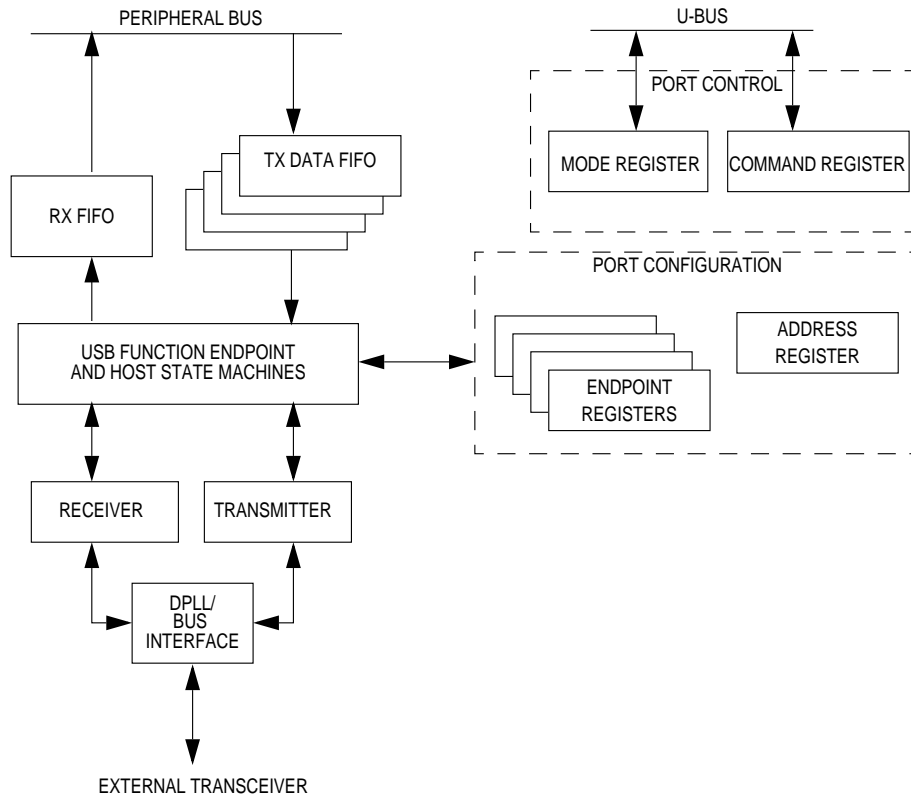

Figure 16-111. USB Controller Block Diagram
**16.9.23.4 SCCx ETHERNET EVENT REGISTER.** When a serial communication controller is in Ethernet mode, the 16-bit memory-mapped SCCx event register is referred to as the SCCx Ethernet event register (SCCE–Ethernet). Since each protocol has specific requirements, the SCCE bits are different for each implementation. This register is used to generate interrupts and report events recognized by the Ethernet channel. When an event is recognized, the SCCx Ethernet controller sets the corresponding bit in the SCCE–Ethernet register. Interrupts generated by this register can be masked in the SCCM–Ethernet register. An example of interrupts that can be generated in the Ethernet protocol is illustrated in Figure 16-111.
The MPC823e USB controller consists of a transmitter module, receiver module, and two protocol state machines. The protocol state machines control the receiver and transmitter modules. One state machine implements the function state diagram and the other implements the host state diagram. The MPC823e USB controller is capable of implementing a USB function endpoint, a USB host, or both for testing purposes (loop-back diagnostics). Figure 16-111 illustrates the USB controller block diagram.